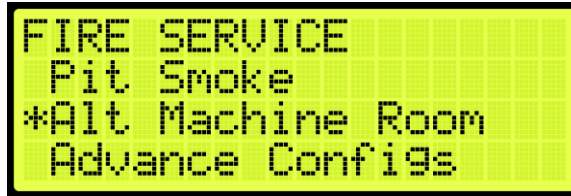

Figure 562: FIRE SERVICE Menu – Alt. Machine Room
2. From the FIRE SERVICE menu, scroll and select Alt. Machine Room (See Figure 562).
1. Navigate to MAIN MENU | SETUP | FIRE (See Figure 562).